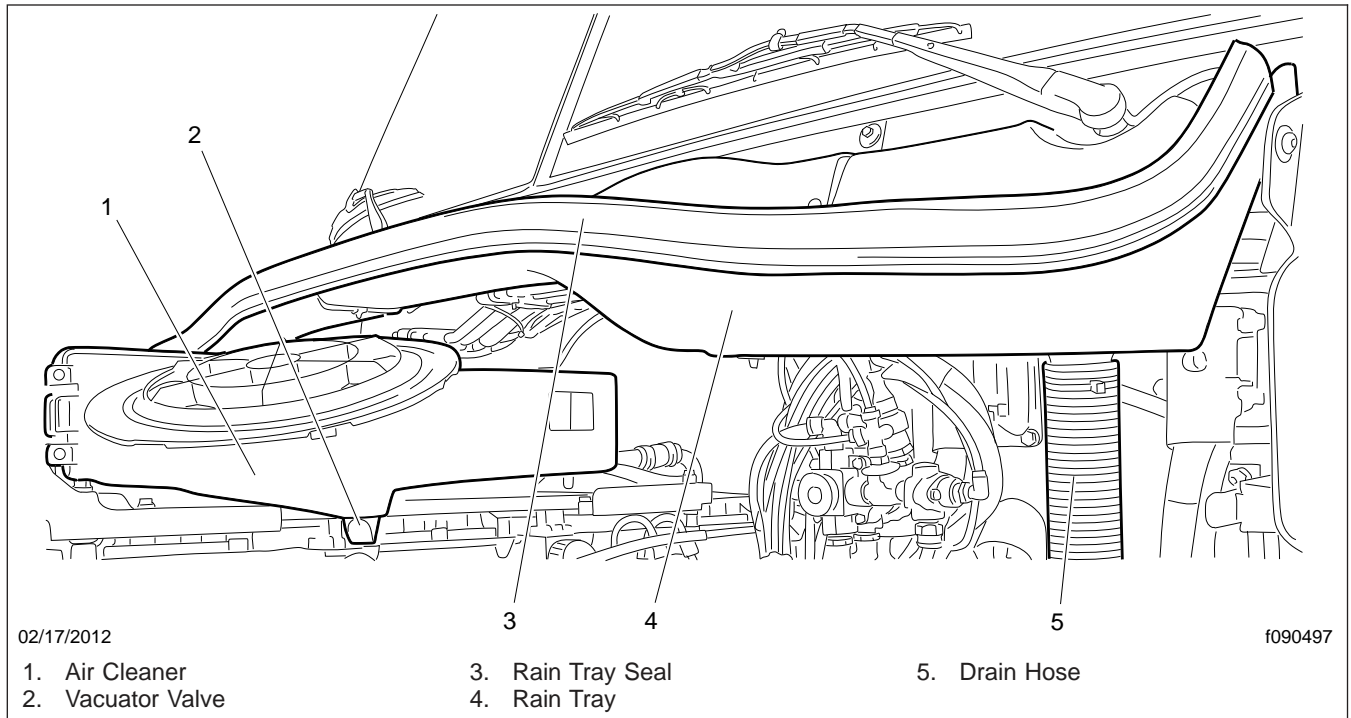
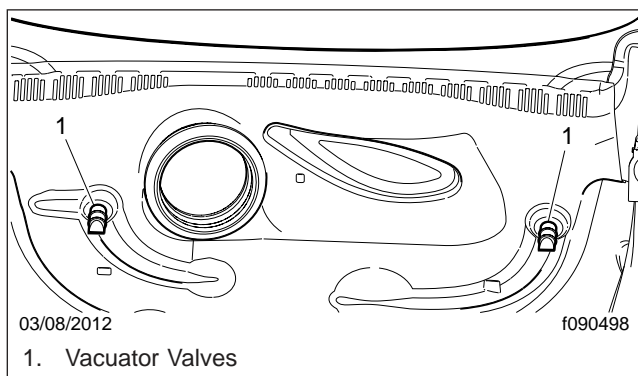

Fig. 21.12, Rain Tray Assembly
Fig. 21.13, Hood Interior
- 3.1 Inspect the vacuator valve(s) installed on the hood interior and air cleaner. Make sure the lips of each valve are undamaged and pliable, free of debris, and remain closed during inspection. See **Fig. 21.12** and **Fig. 21.13**.